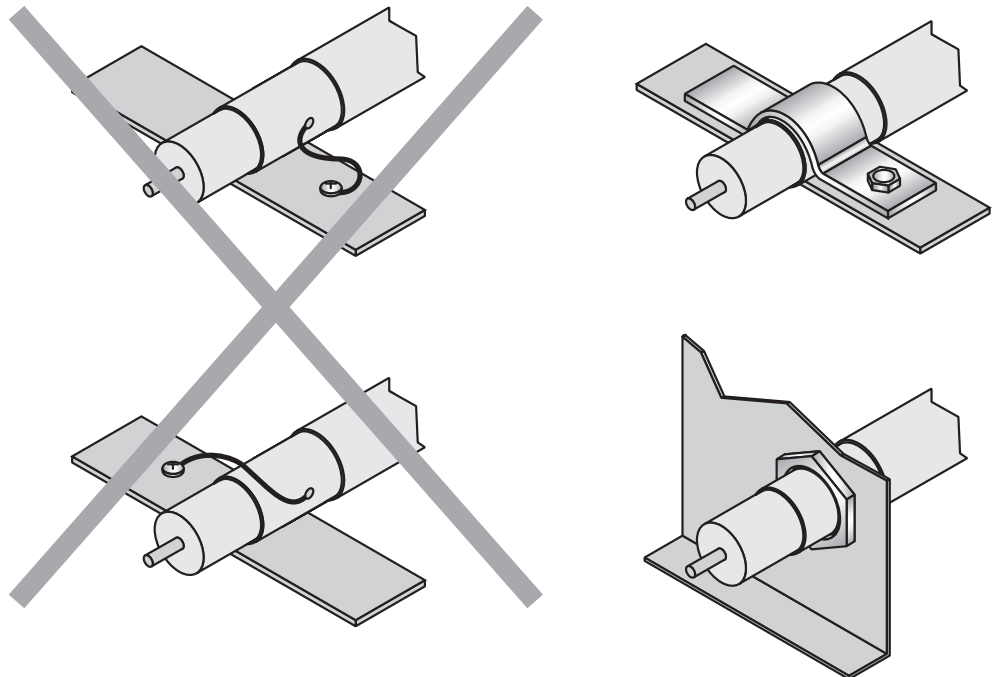

Figure 5: Make an extensive and low-impedance ground connection of the cable shield in the control cabinet
- The cable shield in the control cabinet must be connected to a large area of the signal ground (see figure 5).